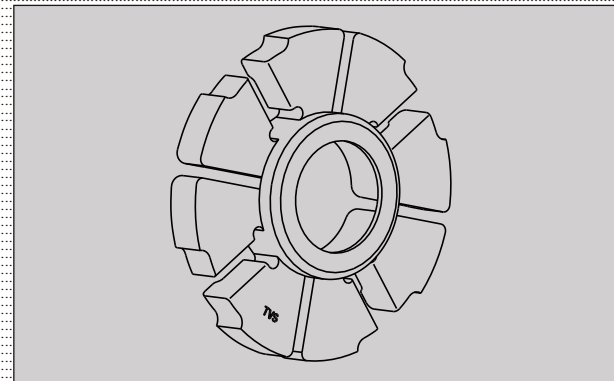

Fig. 6.86
- Inspect absorber rear wheel hub shock for wear, deformation or damage and replace with new if required. (Fig. 6.86)